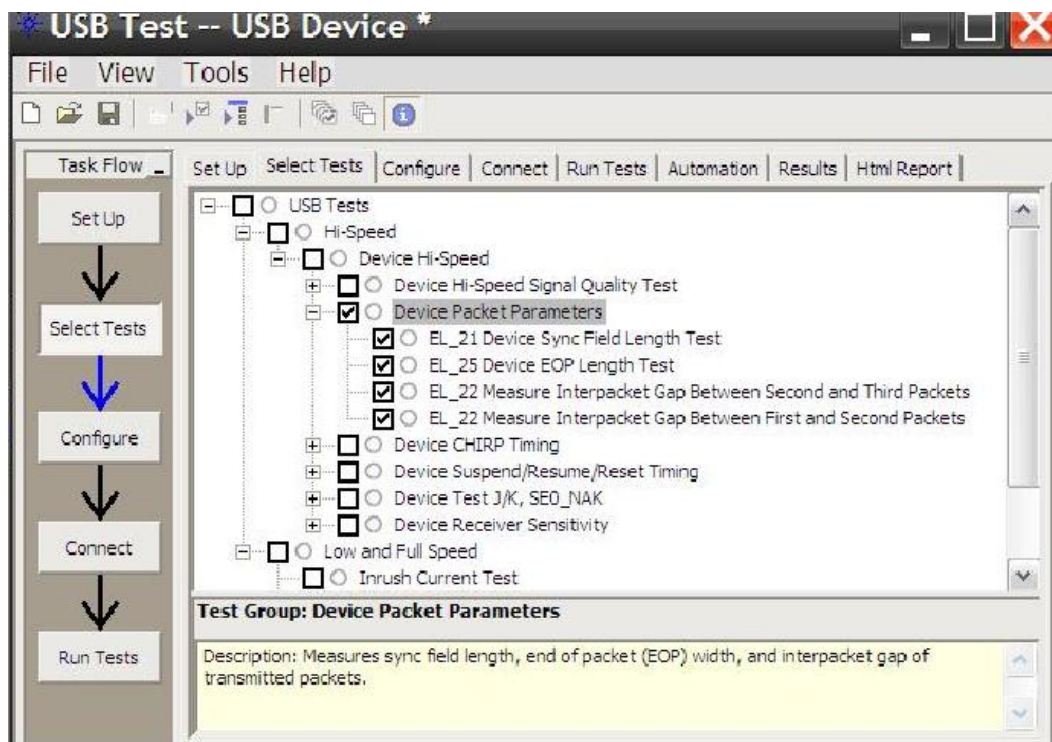

Figure 32. Device Hi-Speed Packet Parameters Test
1. Select the test items in the USB Automated Test software on the oscilloscope as shown in Figure 32. Set the Test Type configuration option to Hi-Speed Near End before running the test.